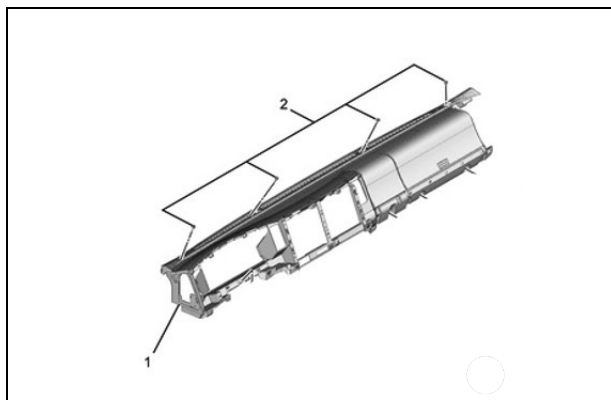

Figure 32
31. Install the four (4) IP mounting bolts removed in Step 11. (See Figure 32.) Ensure the camera cable is routed through the new notch in the IP. **Torque the bolts to: 4.0 N•m (35 lb•in)**